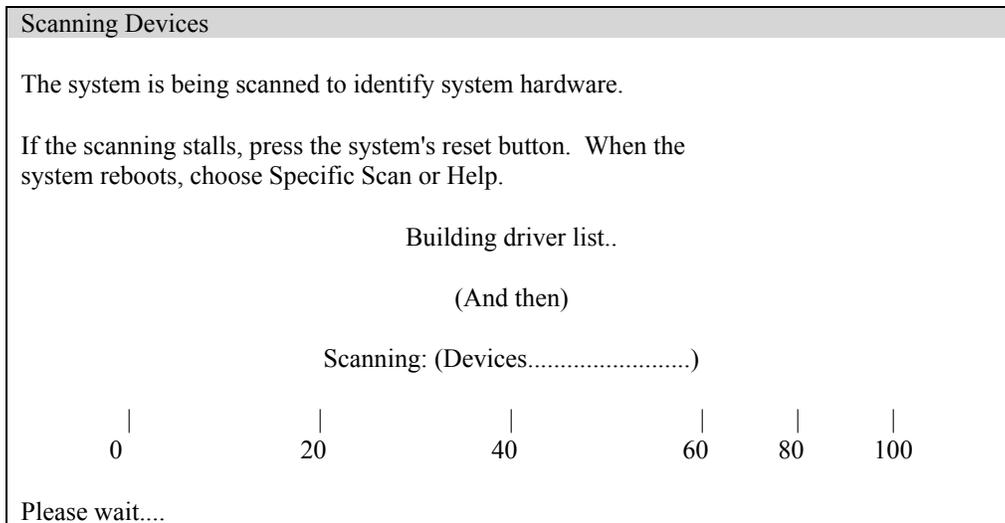

Figure 3-18 Scanning Devices Screen
6. The scanning devices screen (Figure 3-18) will be displayed.